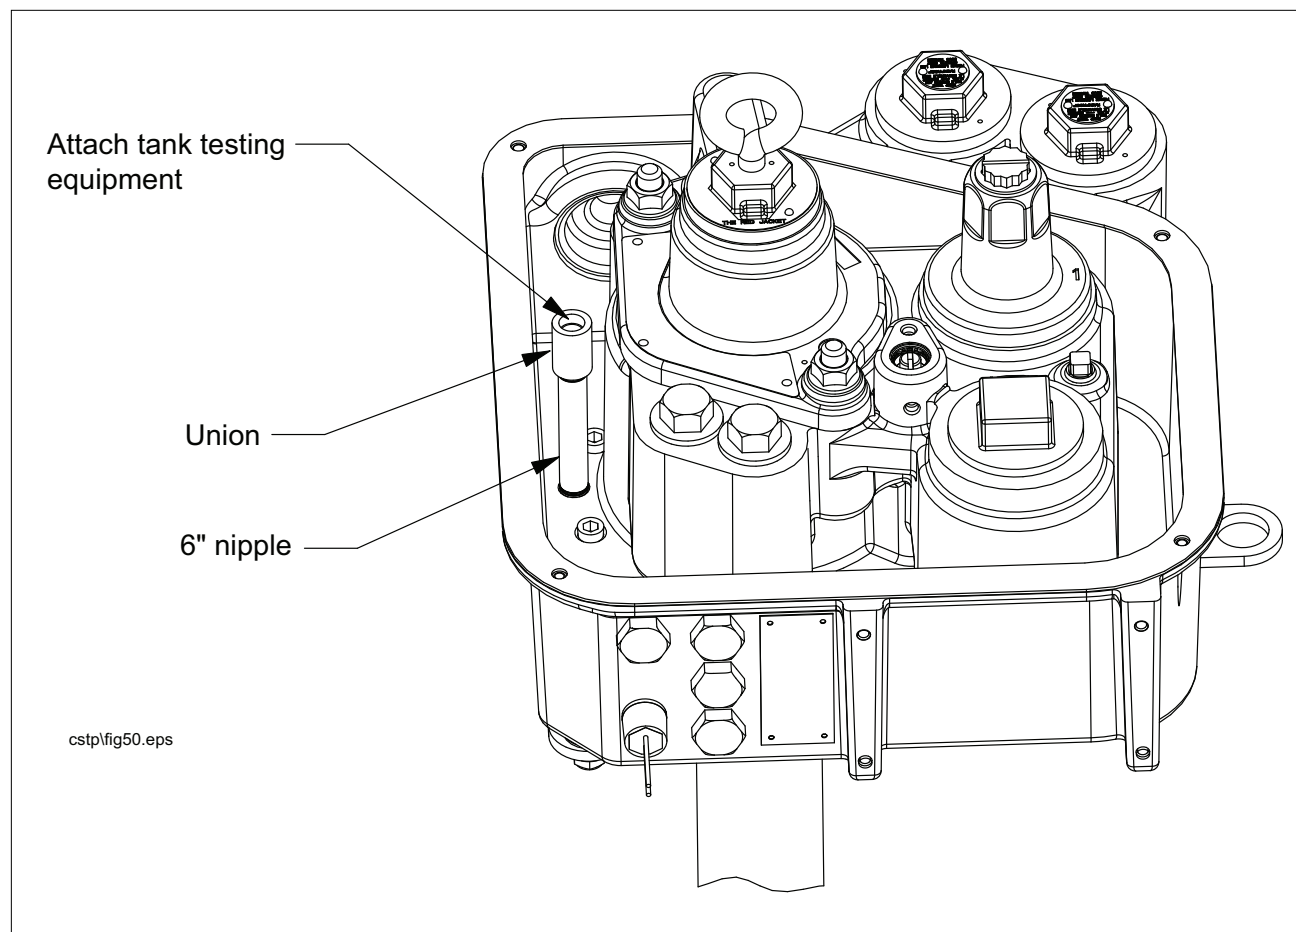

Figure 56. Tank Test Port On Manifold
9. Attach the 6" nipple with the union to the tank port (see Figure 56).